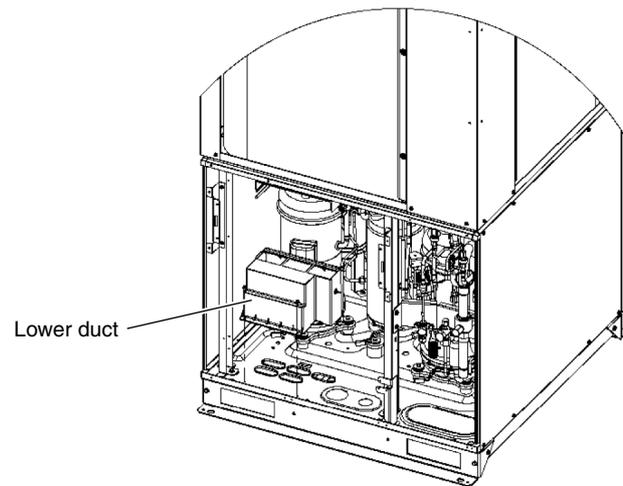

Fig. 5-1
(7) Remove the lower duct. (2 screws, 1 tab) (Fig. 5-1)